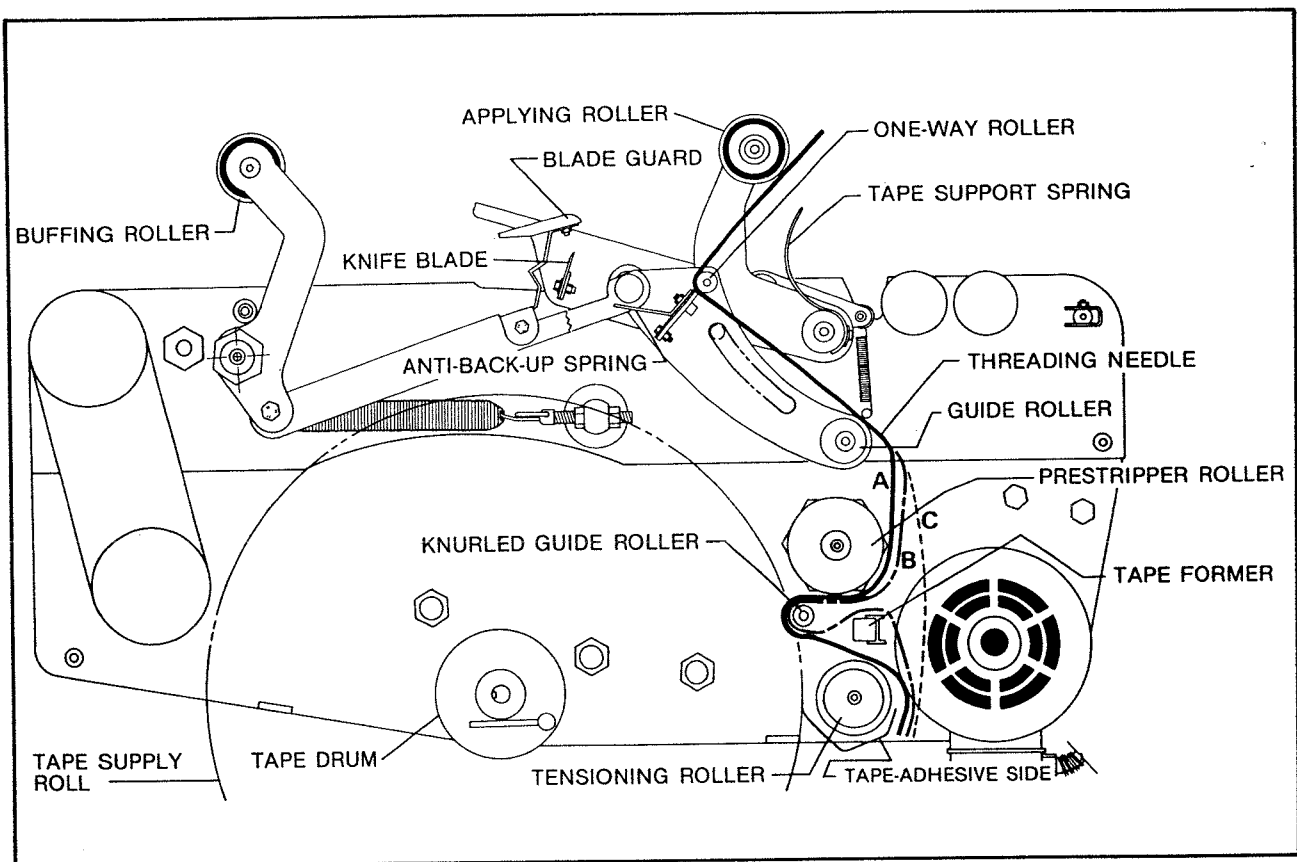
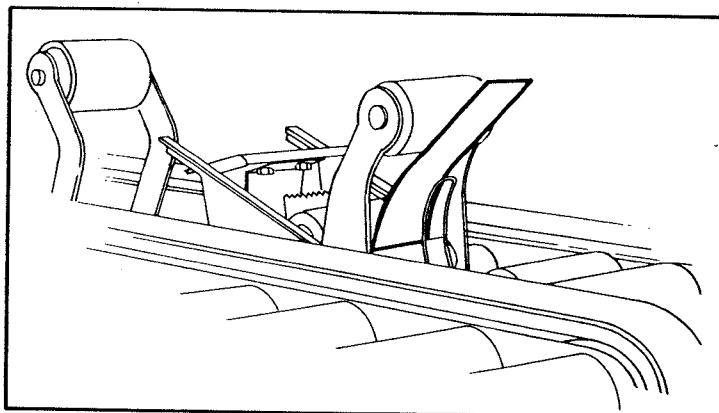
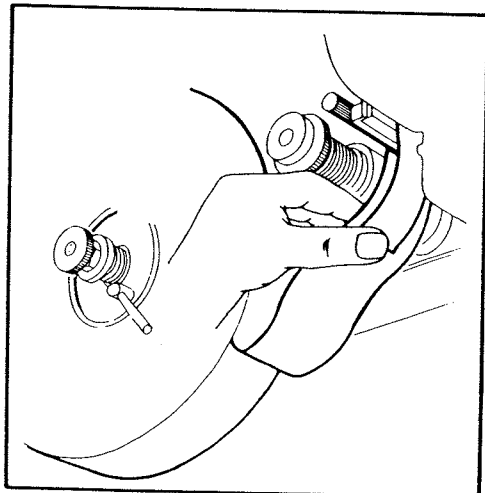

FIGURE 5 TAPE THREADING DIAGRAM - BOTTOM TAPING HEAD - LEFT SIDE VIEW
FIGURE 5B
FIGURE 5C
- 1) With the temporary threading needle already in position, as shown in figure 5, follow the tape loading procedure from figure 5C to complete the tape threading with this exception; thread tape around tensioning roller, former, knurled guide roller and prestripper roller in one of three paths depending on the type tape and application.
Figure 5B - Thread upper end of needle between support spring and applying roller as shown. Thread lower end of needle around guide roller as shown in figure 5 and through path A, B or C.
Figure 5C - Place tape roll fully onto tape drum to dispense tape toward tensioning roller adhesive side down. Turn eccentric roller lever outward to secure tape roll. Adhere tape lead end to lower end of threading needle as shown.